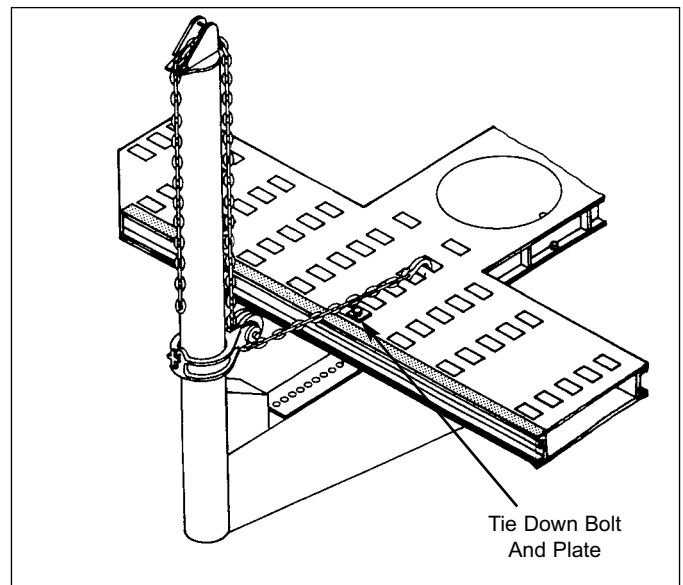

Figure 12
### LATERAL PUSHES: (Figures 12 and 13)
1. Move EZ Liner tower into position and bolt it to outer tie down hole on mainframe. (See Figure 12.)
3. Position tower chain hook in tie down hole approximately 18" (460 mm) in from outside edge of mainframe. Then lower collar to remove slack chain. (See also Figure 12.)